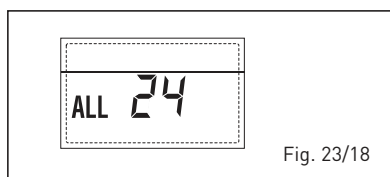

Fig. 23/18
– **ANOMALIA Sonda BOLLITORE SOLARE (S2) “ALL 25”** (fig. 23/19)